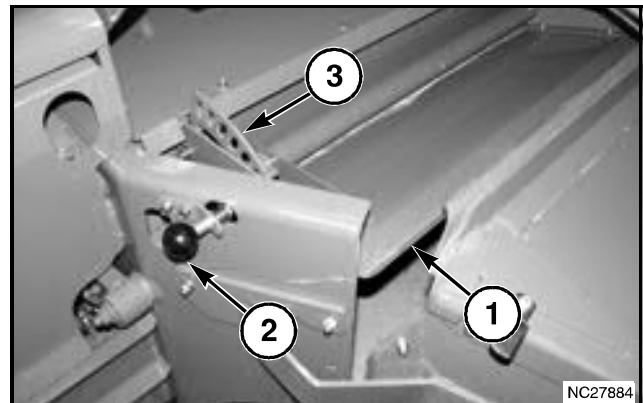

FIG. 15
FIG. 15: Adjust the swathboard (1) by pulling the spring loaded locking pin (2). Put the swathboard in the desired position, and release the spring loaded locking pin. Make sure the spring loaded locking pin engages a slot on the adjustment bracket (3).